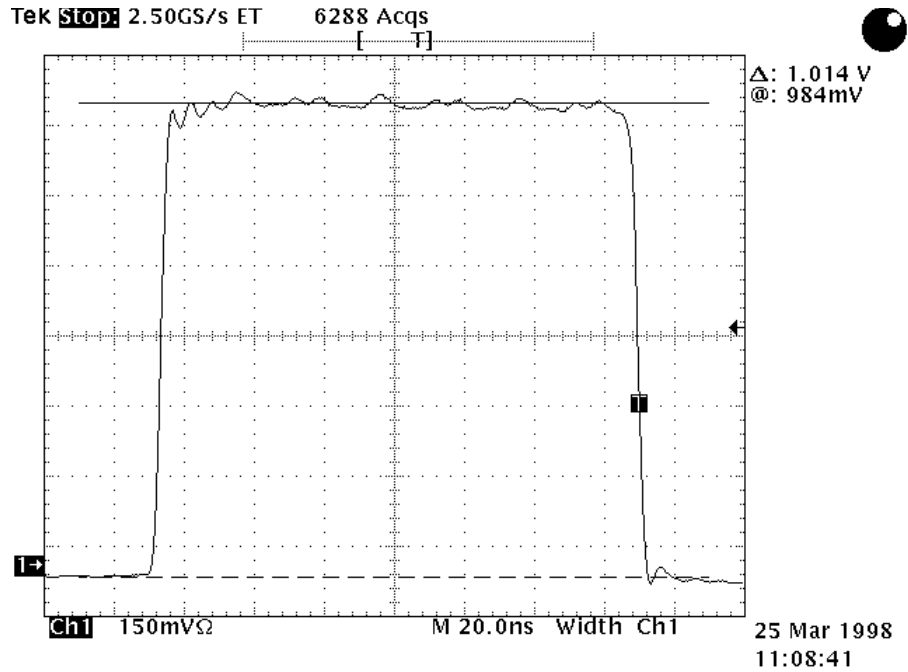
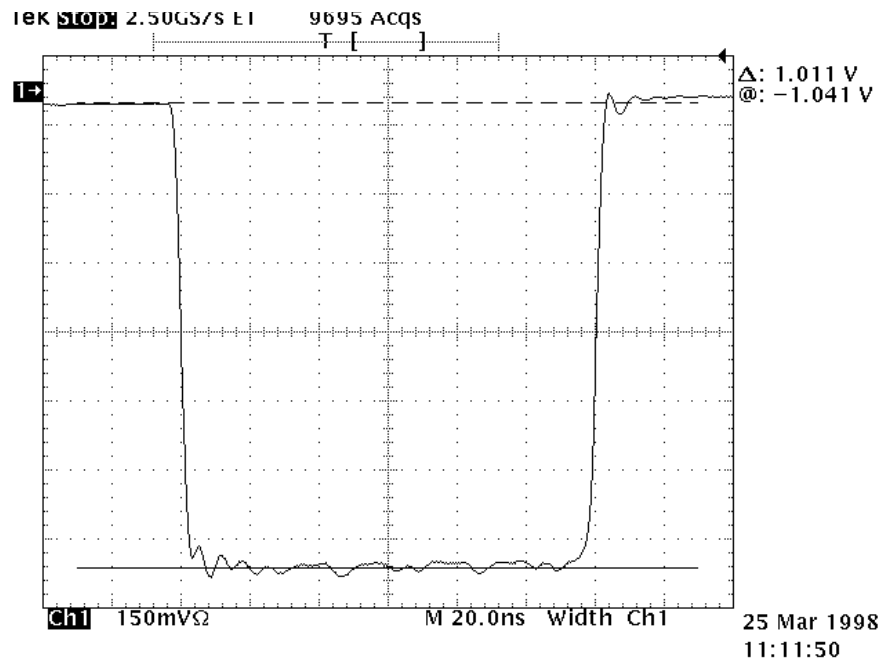

Figure 8-3. Positive Peak Differential Output Voltage (+Vpeak = 1.014 V)
Figure 8-4. Negative Peak Differential Output Voltage ($-V_{\text{peak}} = 1.011 \text{ V}$)
4. Select the horizontal cursors. Move one cursor to +Vout and the other to the zero crossing of the waveform. Figure 8-3 can be used as a reference. The differential output voltage is the difference between the two cursors. Vout is defined as the intersection of the straight line best fit for amplitude with the vertical line indicating the start of the transition from 0 V to Vout. This does not include overshoot.
When measuring positive and negative peak voltages, do not use the absolute values on the screen. Often it will appear as though the start and finish of the MLT-3 waveform do not go through zero. This is caused by the oscilloscope or probes adding in a small DC offset. To record the correct peak values, run one horizontal cursor through the middle of the "zero" of the waveform as shown in Figure 8-3 and Figure 8-4, and use the other cursor to measure the peak by running it through the average final value of the waveform. Record the average value between the two cursors.
Figure 8-3 and Figure 8-4 provide examples of data for the differential output voltage measurement.